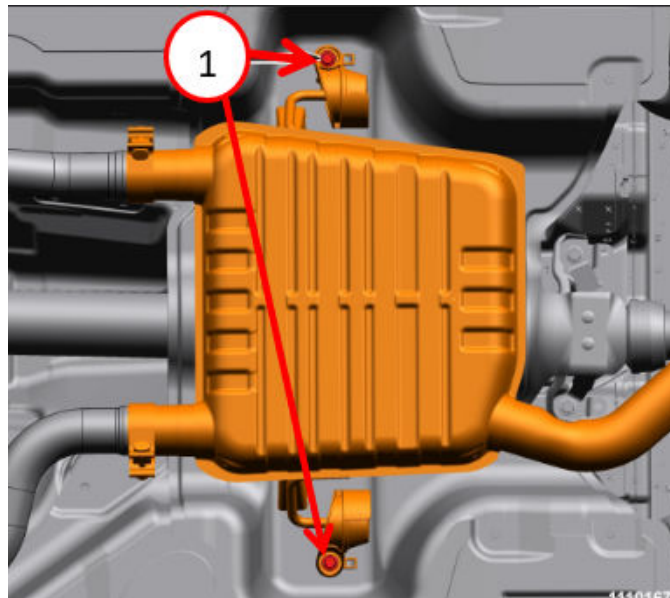

Fig. 1
2. Inspect the muffler hanger fasteners Fig. 1.